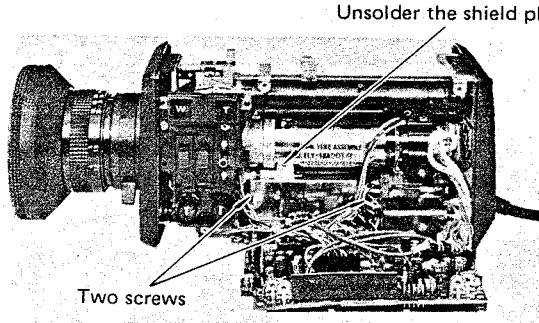

Fig. 3-1
- Remove the two screws which hold the shield plate and preamplifier circuit board. (Fig. 3-1)
- Unsolder the shield plate of preamplifier from the deflection coil. (Fig. 3-1)